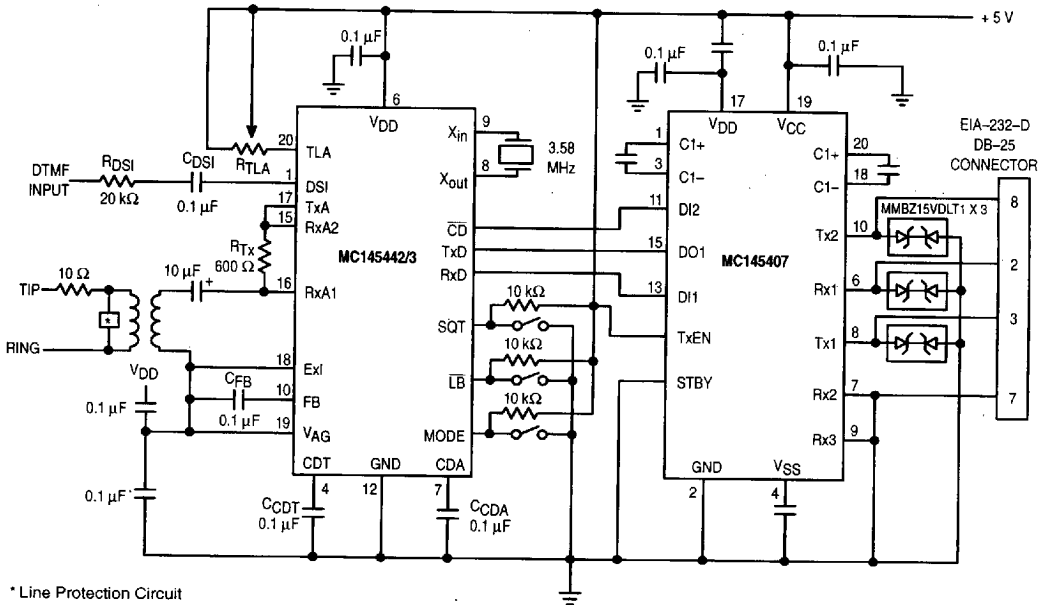

Figure 7. Typical MC145442/MC145443 Applications Circuit
20) to V_{DD} (Pin 6). Table 3 shows the R_{TLA} values and the corresponding power output for a 600Ω load. The voltage at TxA is twice the value of that at ring and tip because TxA feeds the signal through a 600Ω resistor R_{Tx} to a 600Ω line transformer (see Figure 7). When choosing resistor R_{TLA} , keep in mind that -9 dBm is the maximum output level allowed from a modem onto the telephone line (in the U.S.). In addition, keep in mind that maximizing the power output from the modem optimizes the signal-to-noise ratio, improving accurate data transmission.